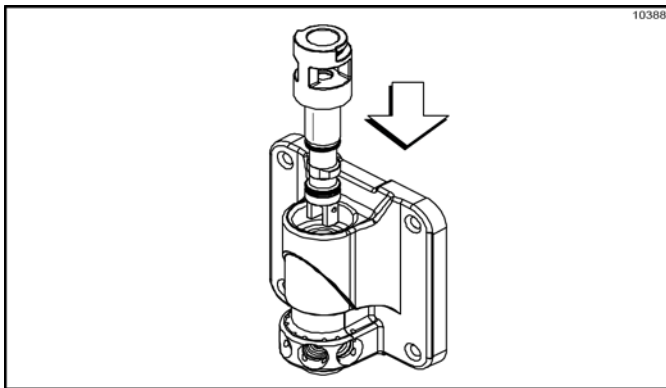

Figure 6-11
11. Insert and align the draw valve spinner assembly into the shake door as shown. (See Figure 6-11.)